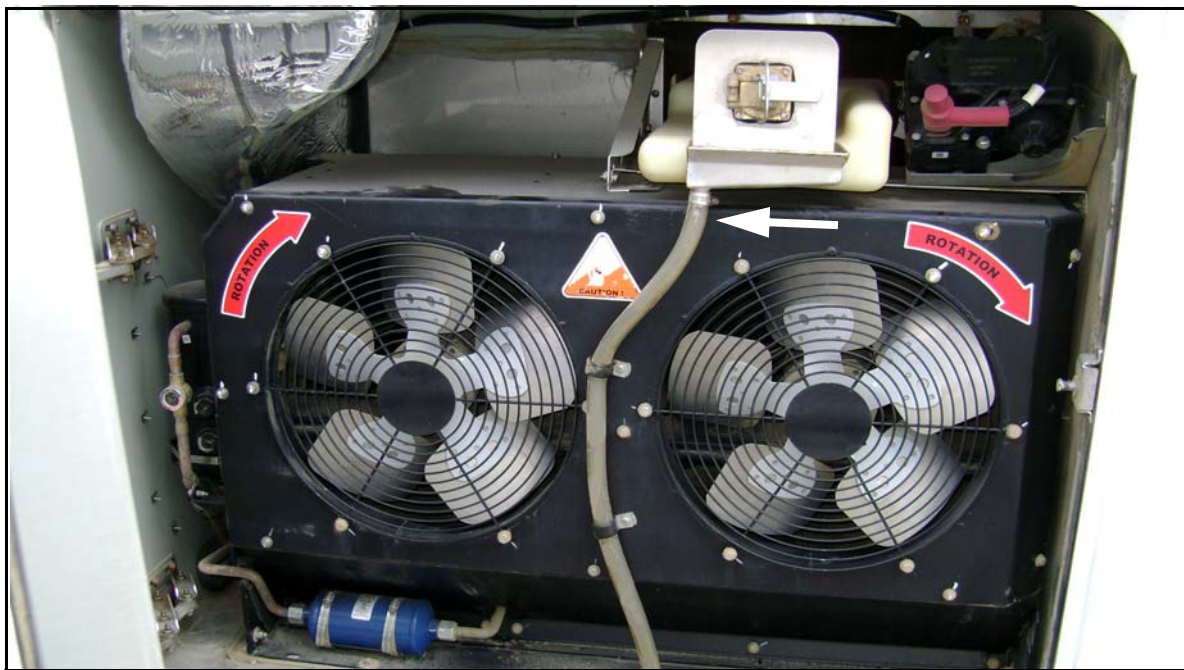

Figure 1.
6. Locate and disconnect the overflow tube from the fuel spill tray (refer to Figure 1).